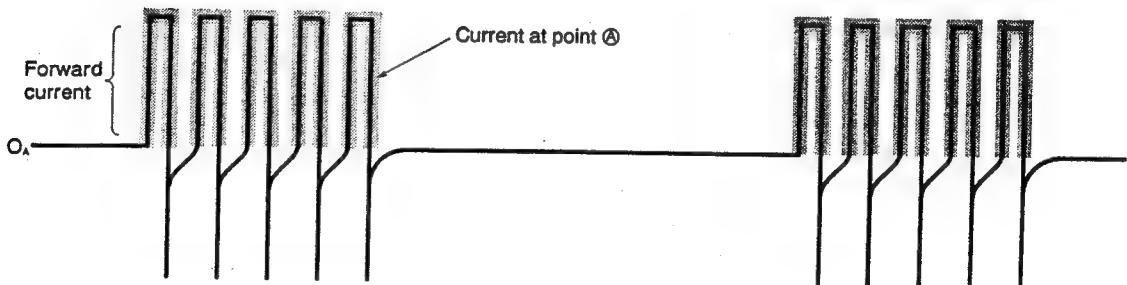

Fig. 7-2 Forward Current Waveform at Point A
- When pin ⑧ of HIC-1 goes "Hi" → "Lo", a photocoupler between PQ501 pins ① and ② turns on and current flows to terminal (d) → R501 → PQ501 → R504 → power module's Bu+ terminals → Eu+ terminals → D502 → D501 → terminal (e) and drives the upper arm transistors. (Fig. 7-2)
- As described in the rotor magnetic pole position detecting circuit, the upper arm drive circuit supplies current to the bases of the transistors on the power module's positive + side which turn on or off according to the position detection signals. The signals according to the position detection signals are output from pins ⑦, ⑧ and ⑨ of the micro computer and are input to pins ① of photocouplers PQ501-PQ503 via driver IC1.